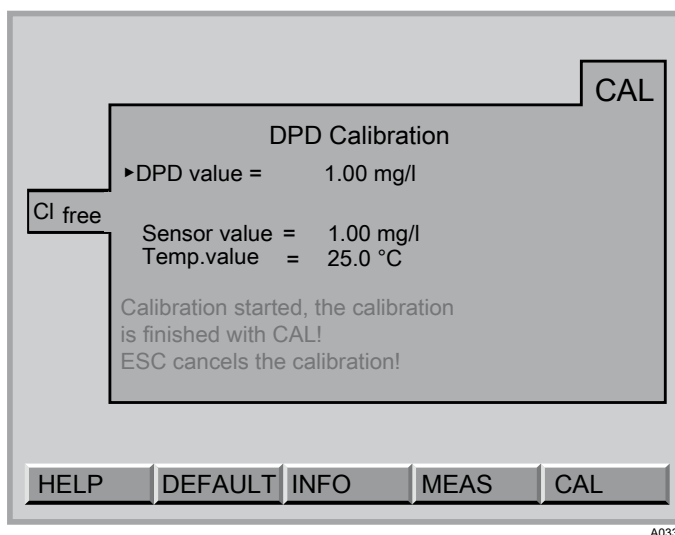

Fig. 29: [DEFAULT].
2. ➤ Press the F2 key (DEFAULT) key, see Fig. 29